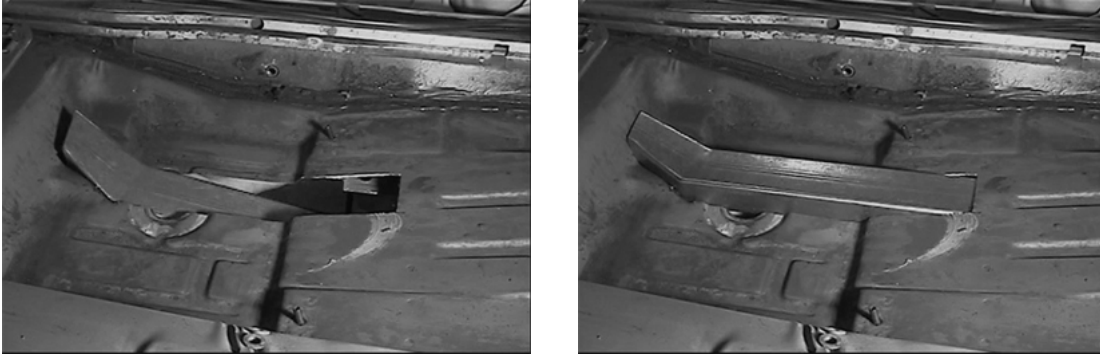

Figure 9
12. Starting with the rear of the appropriate subframe connector (slotted end), insert the open slotted end into the rear floor pan from the bottom as shown in Figure 9. The lower portion of the connector will butt against the front of the rear frame rail.